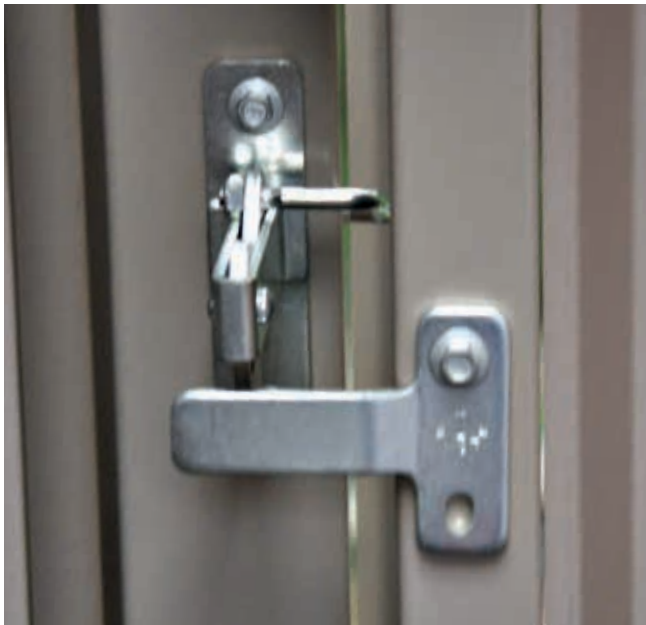

Figure 21.4
10. For extra wide gate with 'PLUS Option' additional screws are required (Figure 21.4):
11. Turn the gate over and drive two #10-16x16 hex. head screws in each corner, placed in alignment to those in Steps 8 and 9. For gate (standard width and extra wide) with 'PLUS Option', drive an additional #10-16x16 screw into the two corners of the lower top rail passing through the lattice or slats clip in alignment with Position A (Figure 21.4).